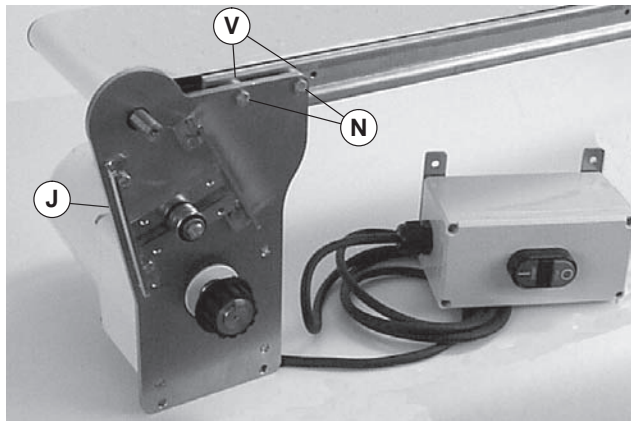

Figure 4
For a 7300 Series mounting package, install two 1.758" (44.7mm) long spacers (Figure 4, item V) (shipped loose) between mounting plate/gearmotor assembly (J) and conveyor. On a 7200 Series (shown), the two 0.438" (11.1mm) long spacers (V) are attached to the mounting plate/gearmotor assembly.
3. Attach mounting plate/gearmotor assembly (J) with screws (N). Tighten to 92 in-lb (10.4 Nm).